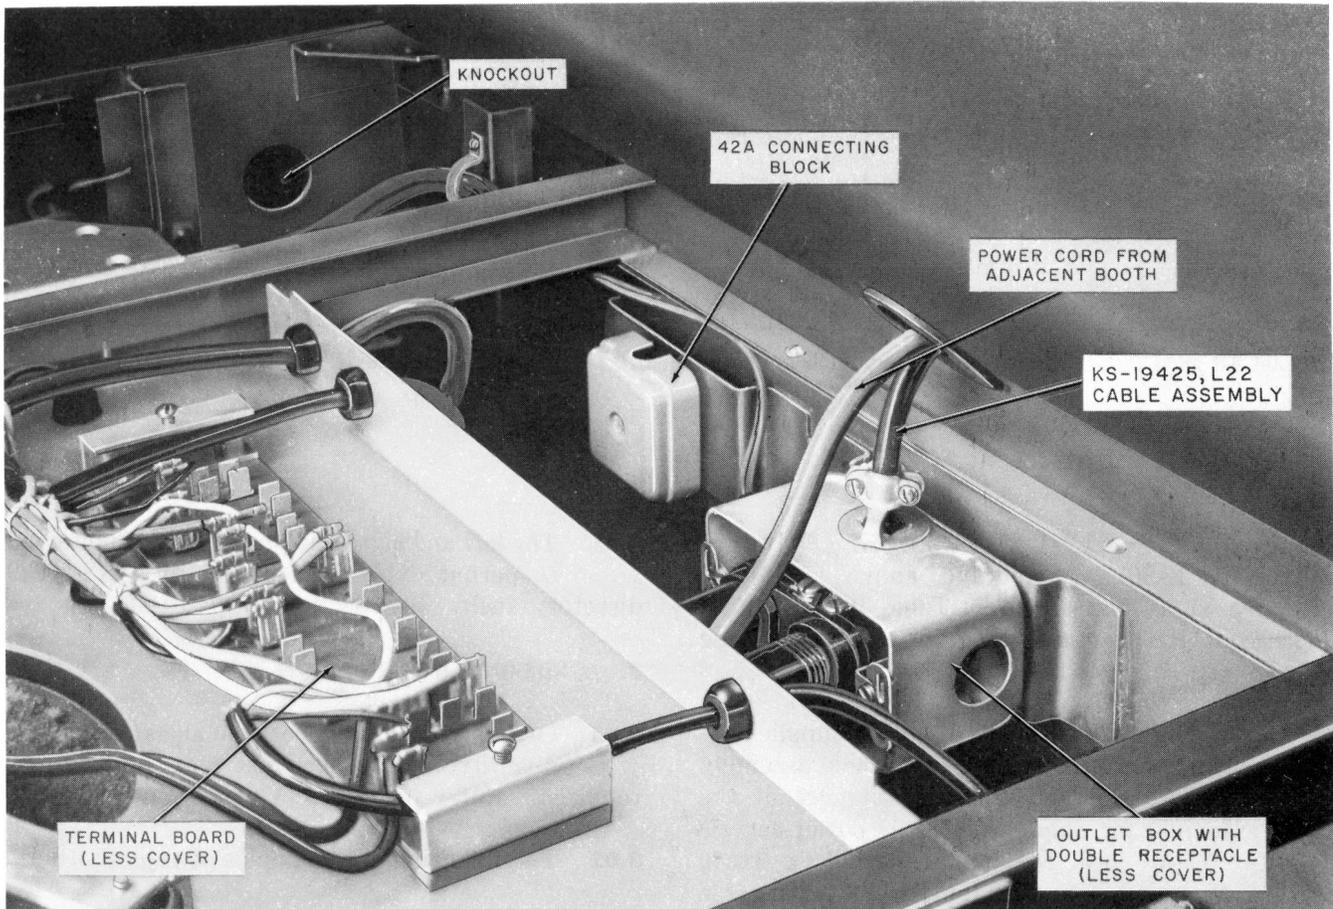

Fig. 2—KS-19206 Booth Ceiling Area
2.11 Power for lights and blower is supplied by means of a KS-19425, List 22 cable assembly (Fig. 2). The cable is furnished as part of the booth assembly for plugging into the power-service outlet. Where local regulations permit, a clamp may be used to prevent accidental removal of cable assembly from power-service outlet.
2.13 A 42A connecting block (Fig. 2) is included as part of the booth; however, a 123A1A protector may be used if required but must be ordered separately.